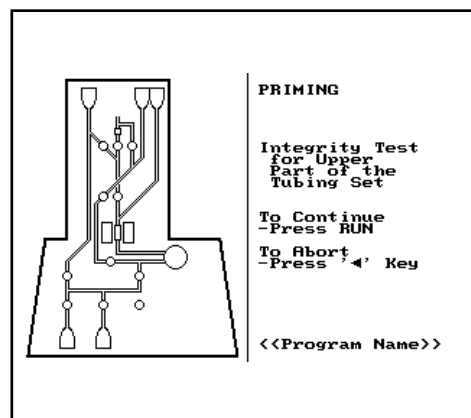

Figure 46: Screen no. 29.
4. The window will display screen no. 29 as shown in figure 46.